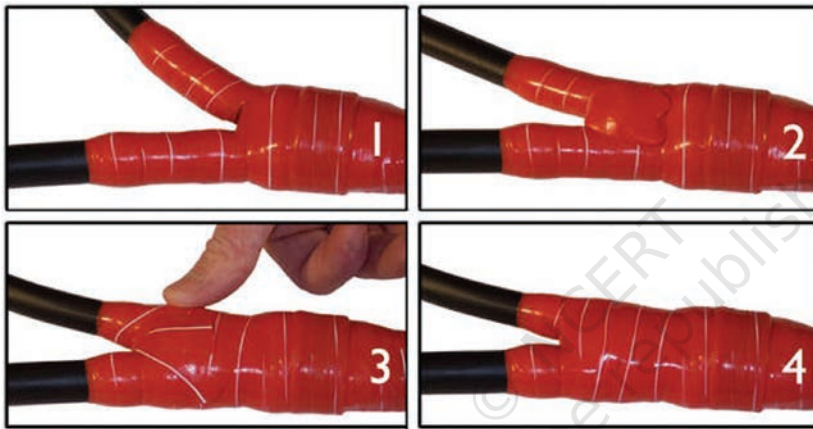

Fig. 5.11 Restoring the over sheath on a branch joint
3. Put the two cables together and bind the main and branch tightly over the filling. Finally, wrap the crotch while pulling the branch away from the main cable (Fig. 5.11).